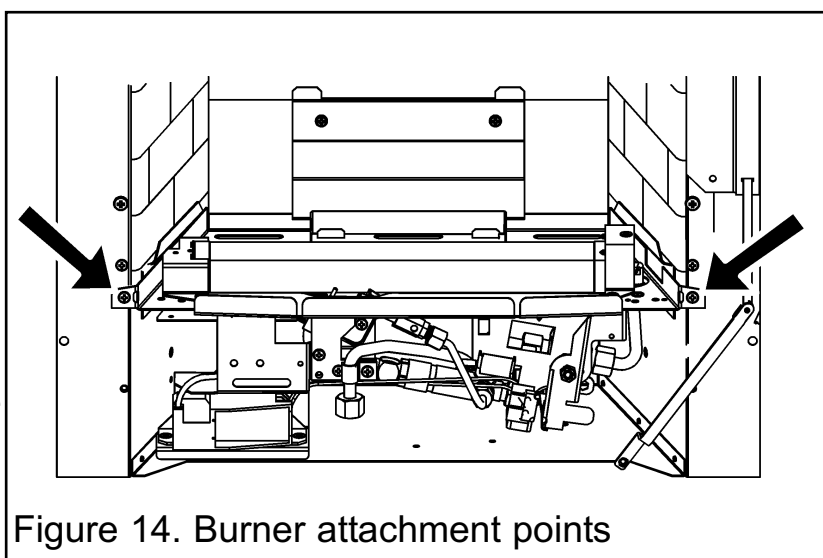

Figure 14. Burner attachment points
3. Detach the burner unit from the convection box by removing two screws (See figure 14). Lift the burner unit clear.